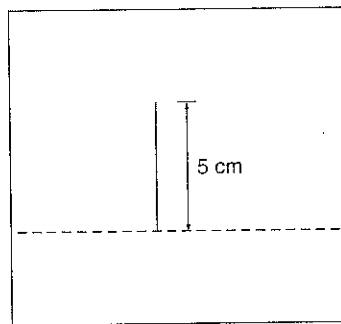

Figure 5-61: Step 1.
- Step 1.** Draw the front vertical edge of the cube (see Figure 5-61).